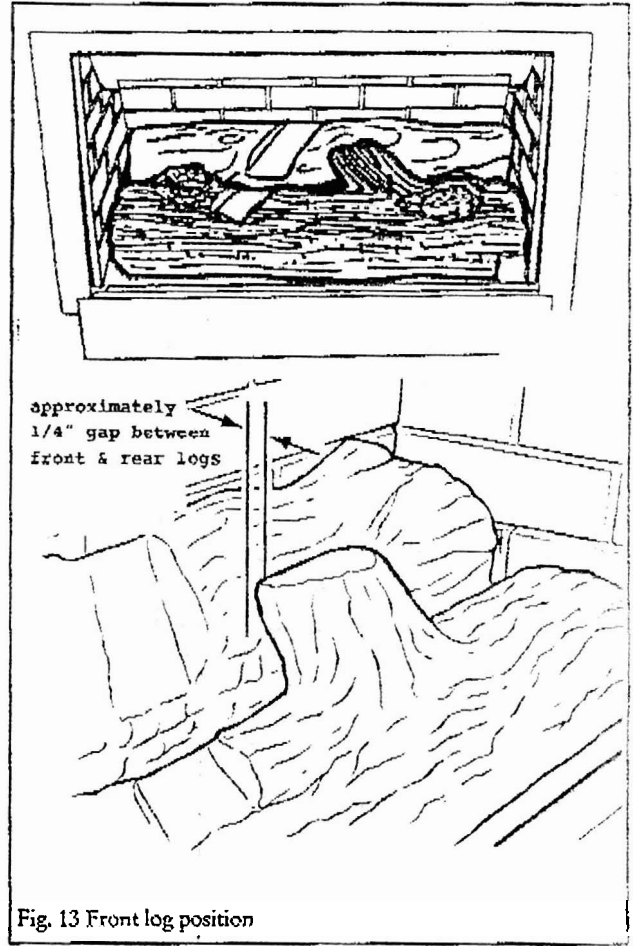

Fig. 13 Front log position
- 12.4 Place the front log on the retaining cradles between the rear and front burner tubes. Center the log so that the gap to the side wall is the same at each side. Set the log so that there is a space of approximately $\frac{1}{4}$ " between the back face of the rear branch and surface of the rear log (see figure 13).